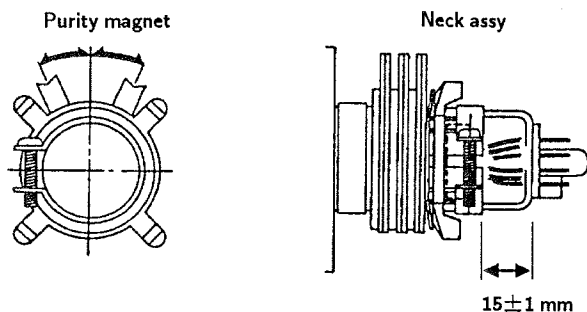

Fig. 4
2. Loosen the deflection yoke mounting screw, and set the purity control to the center as shown in Fig.4